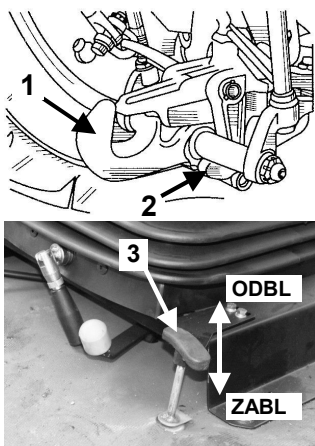

Fig. E-26 Hoist-controlled lower transport bracket.
The structure of the agricultural bracket (deflectable) enables replacement of the bracket with hydraulically-controlled lower transport bracket (fig. E-26). The hook of the lower transport bracket is inserted nearby the agricultural bracket and should be removed before installation.
- set the hoist to upper (max.) position, release the control cable for hook lock (fig. E-26) and lower the hoist (the agricultural bracket also changes its position);
- set the lever 1 for hoist control (fig. E-27) to „lift” to release catches 2 (fig. E-26) of the hook lock from load;
- the cable 3 (fig. E-26) for hook lock control set in unlocked position;
- set the lock control cable 3 (fig. E-26) to lower position (locked);
- set the lever 1 (fig. E-27) to „lift” so as to unlock the hook (pull the cable 3 (fig. E-26) upwards and lock in this position);
- set the cable 3 (fig. E-26) to lower position, and the hoist control lever 1 to (N).